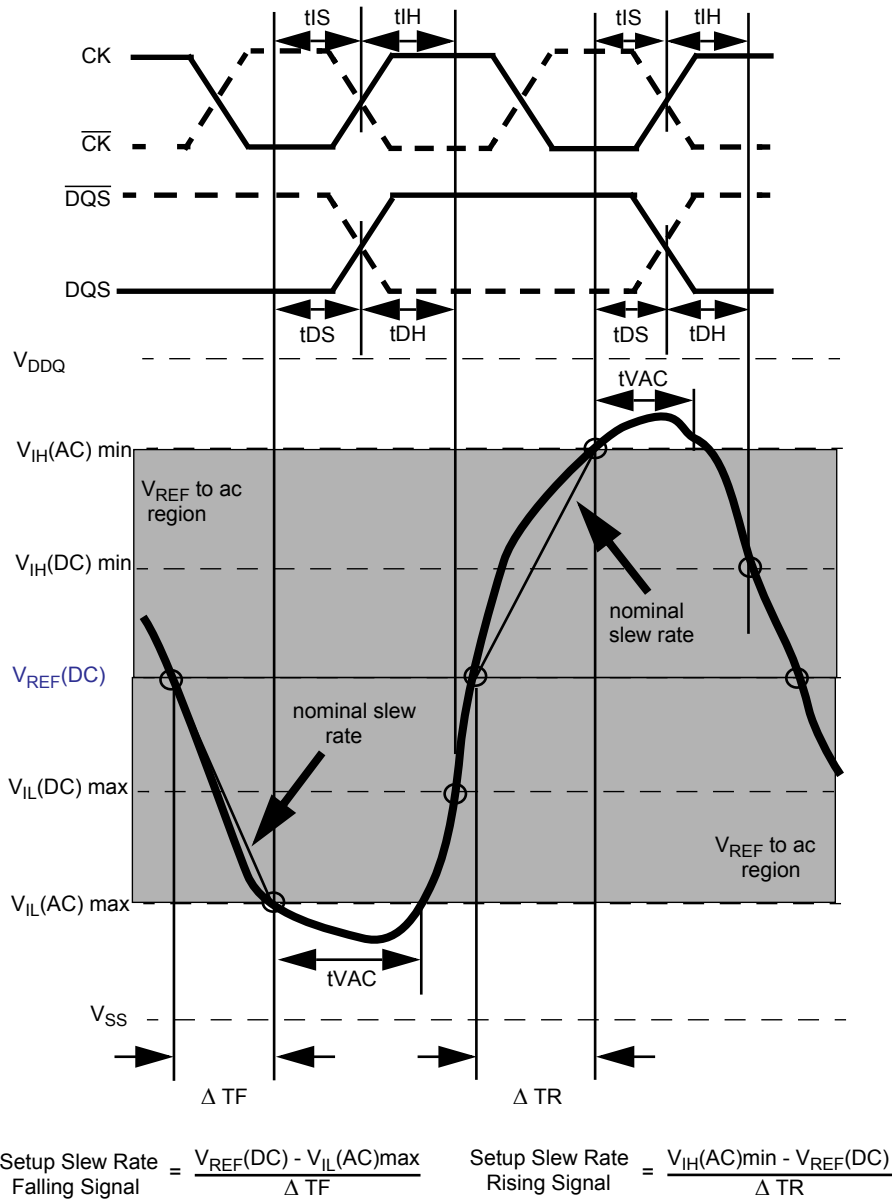
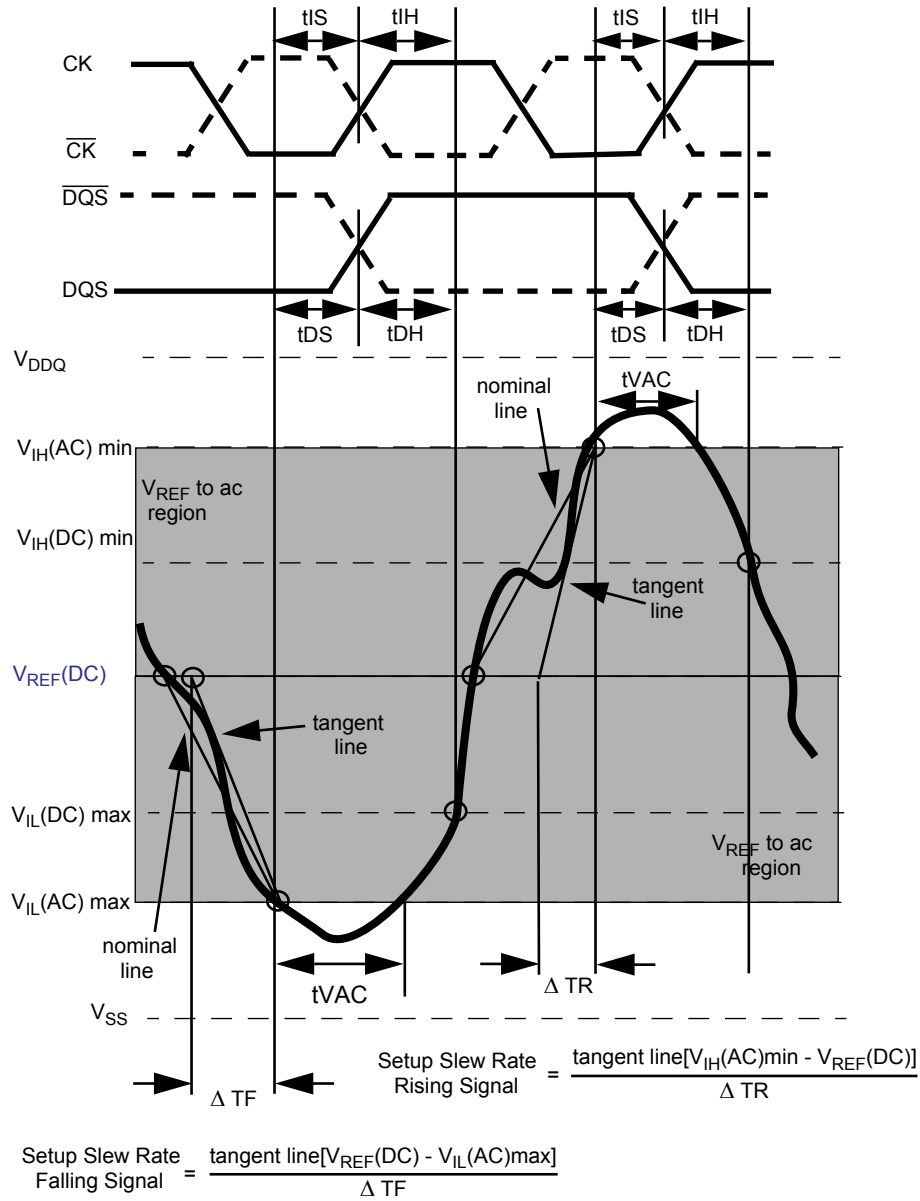

Figure 21. Illustration of nominal slew rate and t_{VAC} for setup time t_{DS} (for DQ with respect to strobe) and t_{IS} (for ADD/CMD with respect to clock).
Figure 23. Illustration of tangent line for setup time t_{DS} (for DQ with respect to strobe) and t_{IS} (for ADD/CMD with respect to clock)
Example: tIS (total setup time) = tIS(base) + ΔtIS Setup (tIS nominal slew rate for a rising signal is defined as the slew rate between the last crossing of V_{REF}(DC) and the first crossing of V_{IH}(AC)min. Setup (tIS) nominal slew rate for a falling signal is defined as the slew rate between the last crossing of V_{REF}(DC) and the first crossing of V_{IL}(AC)max. If the actual signal is always earlier than the nominal slew rate line between shaded 'V_{REF}(DC) to ac region', use nominal slew rate for derating value (see Figure 21). If the actual signal is later than the nominal slew rate line anywhere between shaded 'V_{REF}(DC) to ac region', the slew rate of a tangent line to the actual signal from the ac level to dc level is used for derating value (see Figure 23).